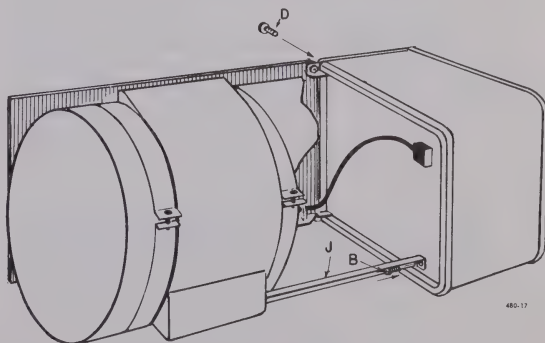

Figure 2-7.
h. Place the power supply at the left of the oscillator and push the instruments together, so that the brackets attached in step e slide into the space between the panel and the end frame of the power supply. Reinstall the two end-frame screws (D) on the right-hand side of the power supply (Figure 2-7).
l. Attach mounting bracket (J) to the power supply using a foot-screw (B) passed through the bracket.